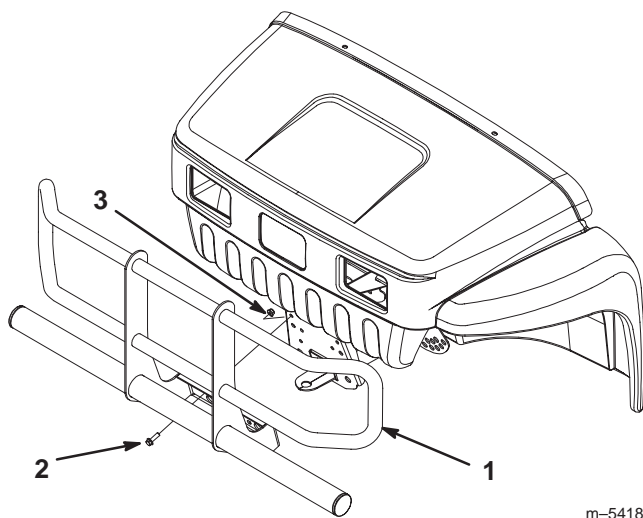

Figure 1
3. Attach the brush guard with 4 new flange bolts and nuts (Fig. 1).